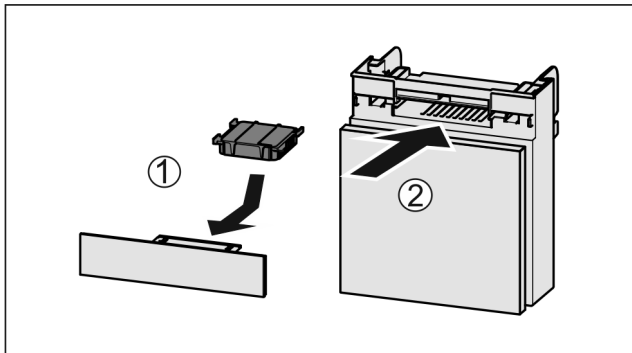

Fig. 76
- ▶ Insert the carbon filter as shown in the diagram Fig. 76 (1).
- ▶ Push the compartment in Fig. 76 (2).